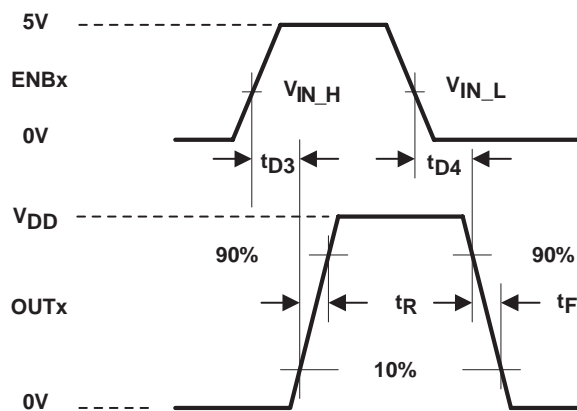

Figure 2. Switching Waveform for Enable to Output
4. See Figure 2.
The first circuit in Figure 2 is used to verify the current sink capability when the output of the driver is clamped around 5 V, a typical value of gate-source voltage during the Miller plateau region. The UCC27423 is found to sink 4.5 A at  $V_{DD} = 15$  V and 4.28 A at  $V_{DD} = 12$  V.